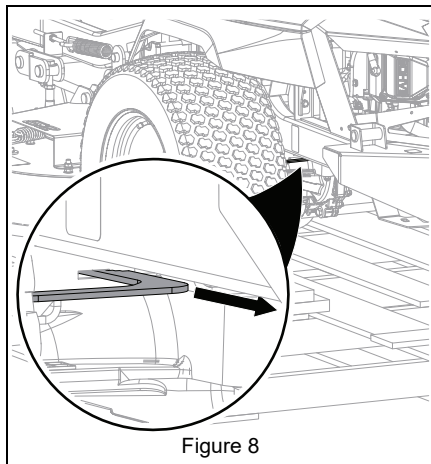

Figure 8
13. Pull transaxle bypass levers out to disengage transaxles. See Figure 8.